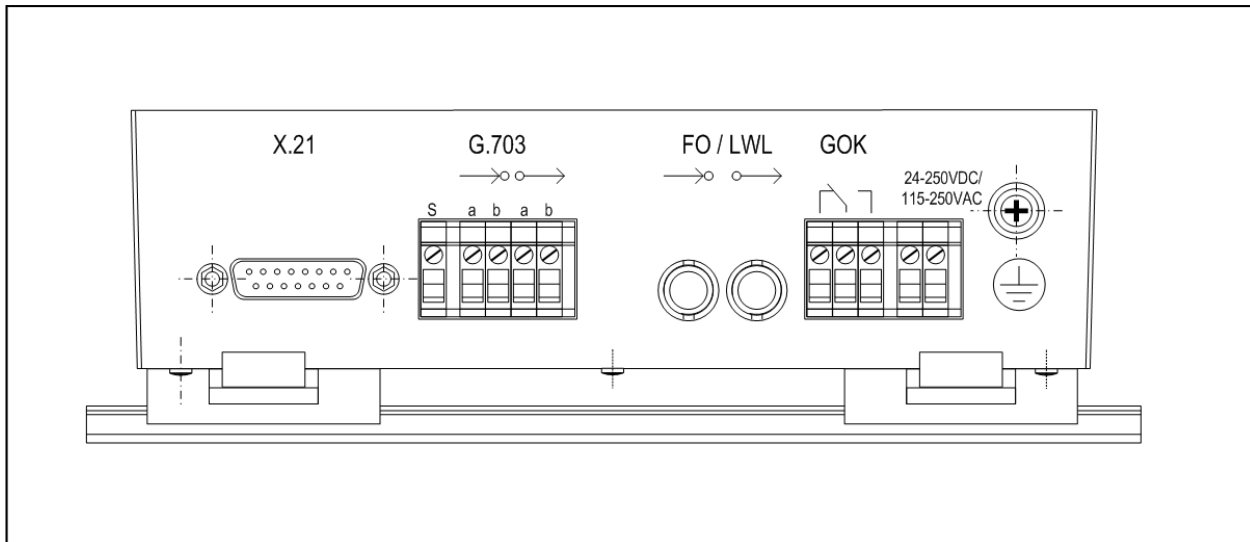

Figure 14 Interfaces and connections
The following interfaces and connections are located on the device side (Figure 14):
- Insert the cable with the socket into the DSUB-connector X.21 of the communication converter. In the figure 14 you can see where the interface connector is located. The figure 17 shows the connection assignment on the DEE connection of the communication converter.
- The alarm relay (DR) contact can be connected as a NO contact or as a NC contact. The NO contact is normally appropriate, so that the contact opens if the auxiliary voltage fails.